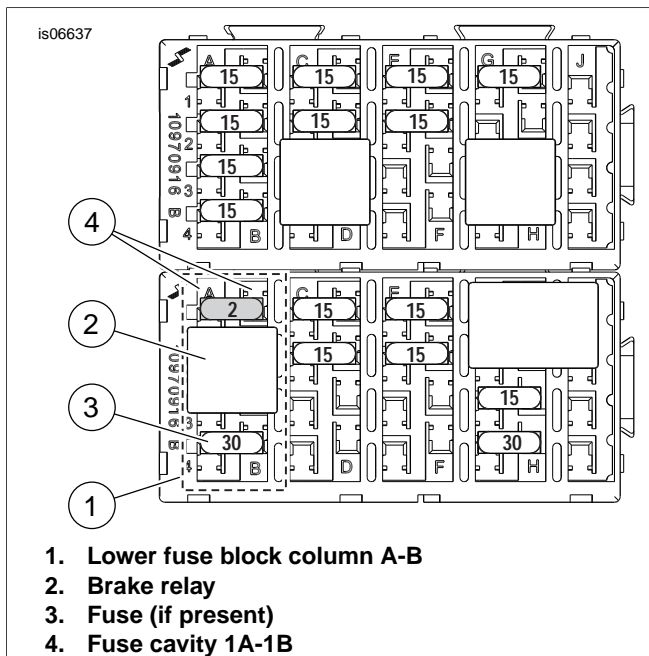

Figure 11. P&A IGN Fuse Cavity (2008 and Later Touring Models)
3. See Figure 11. Locate fuse cavity 1A-1B (marked "P&A IGN", "2A MAX" on the cover) on the lower fuse block (1). Remove the brake relay (2) and fuse (3, if present) currently installed in column A-B, noting their location.